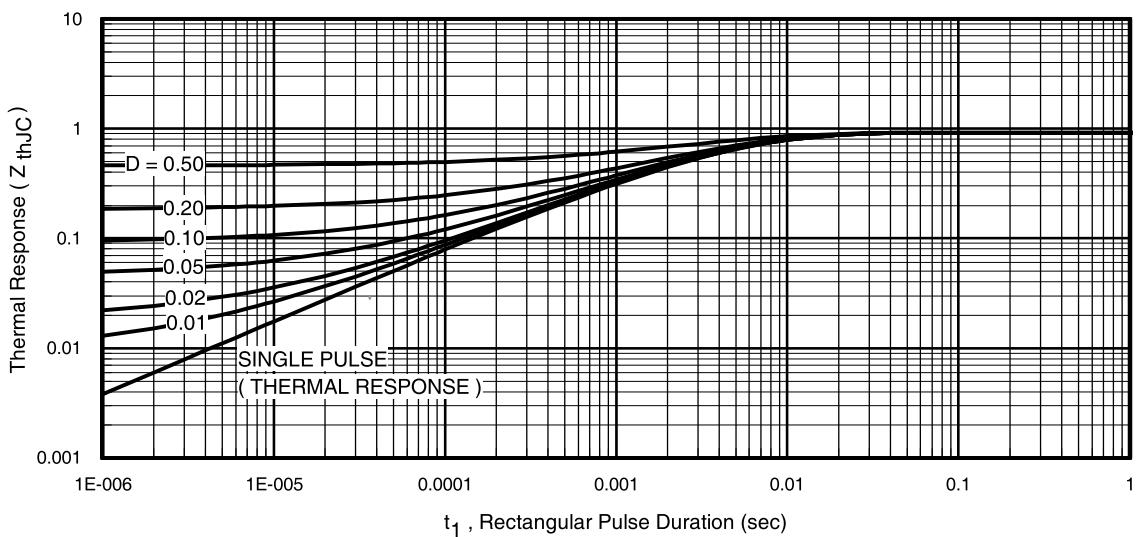
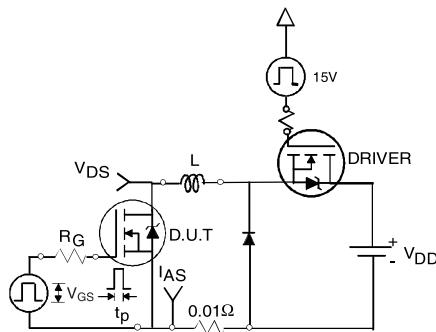

Fig 11. Maximum Effective Transient Thermal Impedance, Junction-to-Case
Fig 12a. Unclamped Inductive Test Circuit
- ① Repetitive rating; pulse width limited by max. junction temperature. (See fig. 11).
- ② Limited by $T_{J\max}$, starting $T_J = 25^\circ\text{C}$, $L = 0.27\text{mH}$, $R_G = 25\Omega$, $I_{AS} = 35\text{A}$, $V_{GS} = 10V$. Part not recommended for use above this value.
- ③ $I_{SD} \leq 35\text{A}$, $dI/dt \leq 380\text{A}/\mu\text{s}$, $V_{DD} \leq V_{(\text{BR})\text{DSS}}$, $T_J \leq 175^\circ\text{C}$.
- ④ Pulse width $\leq 1.0\text{ms}$; duty cycle $\leq 2\%$.
- ⑤ $C_{oss \text{ eff.}}$ is a fixed capacitance that gives the same charging time as C_{oss} while V_{DS} is rising from 0 to 80% V_{DSS} .
- ⑥ Limited by $T_{J\max}$, see Fig.12a, 12b, 15, 16 for typical repetitive avalanche performance.
- ⑦ This value determined from sample failure population. 100% tested to this value in production.
- ⑧ This is applied to D²Pak, when mounted on 1" square PCB (FR-4 or G-10 Material). For recommended footprint and soldering techniques refer to application note #AN-994.
3. Equation below based on circuit and waveforms shown in Figures 12a, 12b.
$Z_{thJC}(D, t_{av})$ = Transient thermal resistance, see figure 11)